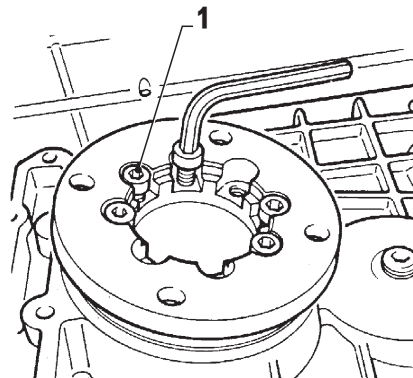

FIG. 4-1
Unscrew socket head bolts (item 1, Fig. 4-1) up to four opposite ones.